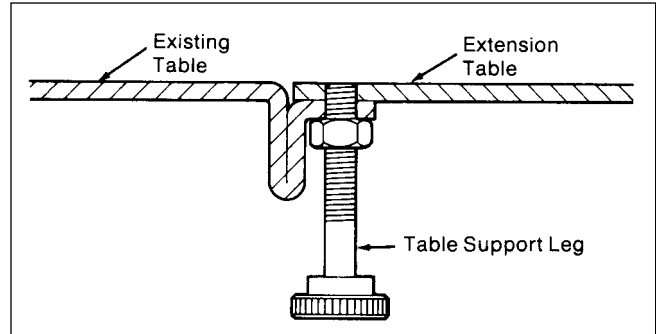

Fig. 2b
5. Thread the nuts toward the table and tighten, securing the two tables into place (figure 2b).